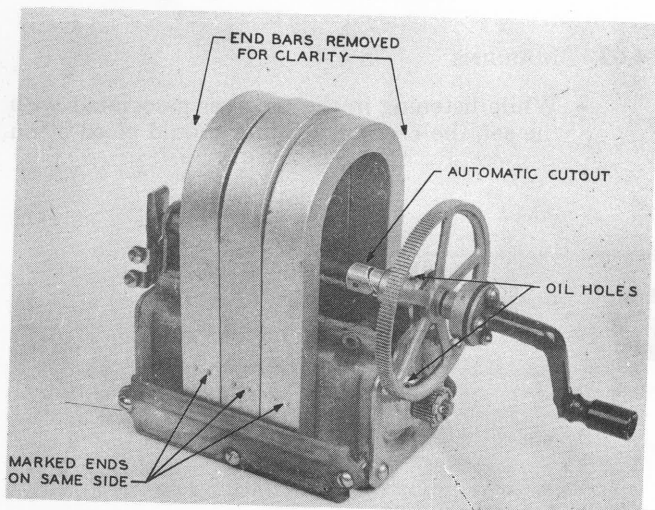

FIG. 3A
- Inspect the hand generator to see that the automatic cutout functions, the gear teeth are not worn or mutilated, and the handle turns freely (see Figs. 3A and 3B).
- All similarly marked ends of the magnets must be on the same side of the generator (see Fig. 3A).